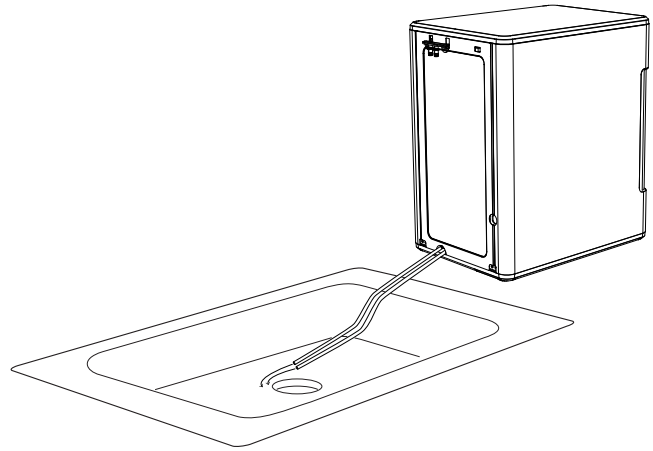

Figure 5
6. Now drain out the water by un-hooking the tubes from the back of the Opal and placing them in a sink or bucket. Remove the drain plugs and allow all the water to drain out. See Figure 5.